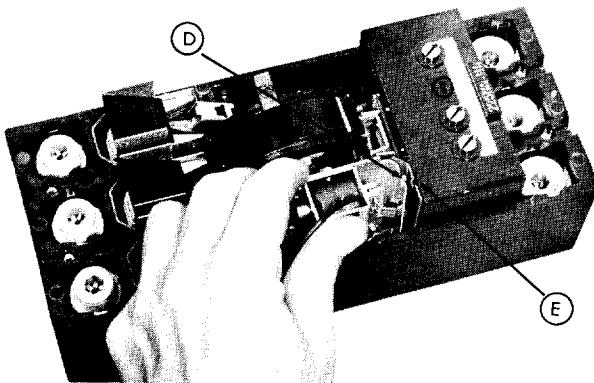

Fig. 10. Installing shunt trip in left pole
Holding accessory as shown, insert the latched plunger into trip unit knockout removed in Step 3. Press the unit into place — this unlatches the plunger, allowing it to contact the breaker trip bar. Note small bent tab (D) should fit into hole (E) in the trip unit case (See Figs. 10 and 11).